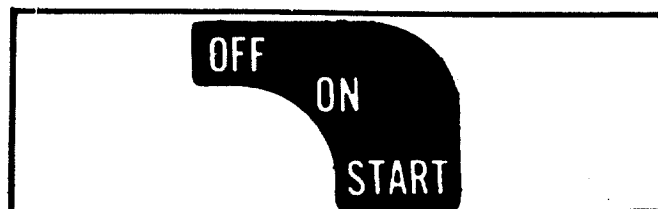

**FIGURE 12. FUEL SHUT-OFF VALVE**
- Step 1. Be sure the fuel shut-off valve is open. See figure 12.